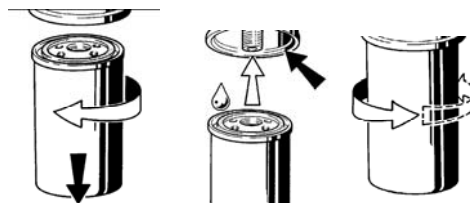

Fig. 7.2.2
(2) Change oil filter (Fig. 7.2.2):